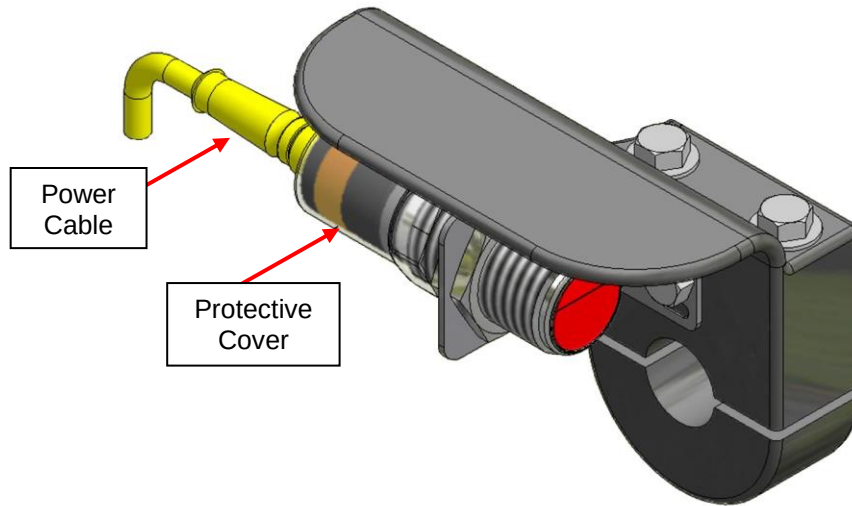

Figure PH006-13 – OID250 Protective Cover
- 1. Remove the power cable from the back of the sensor (see Figure PH006-13).**